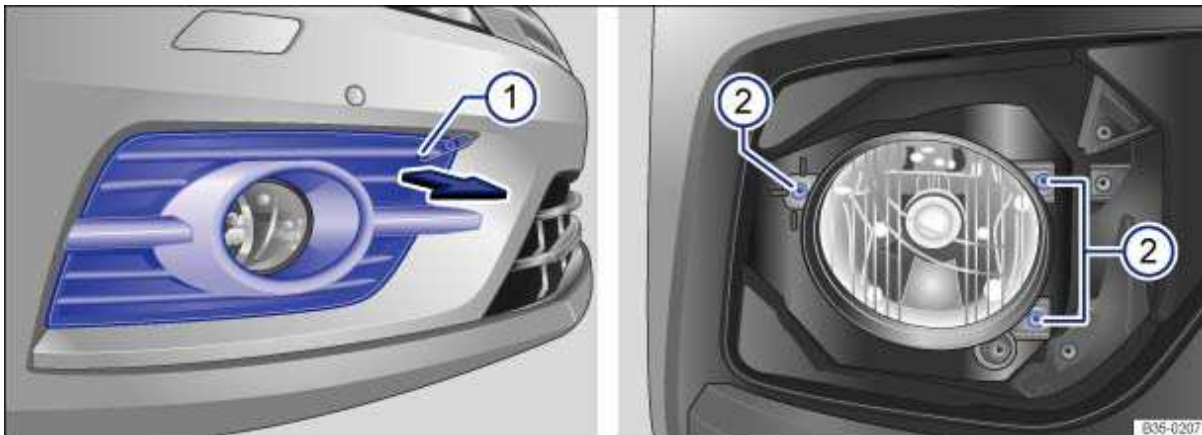
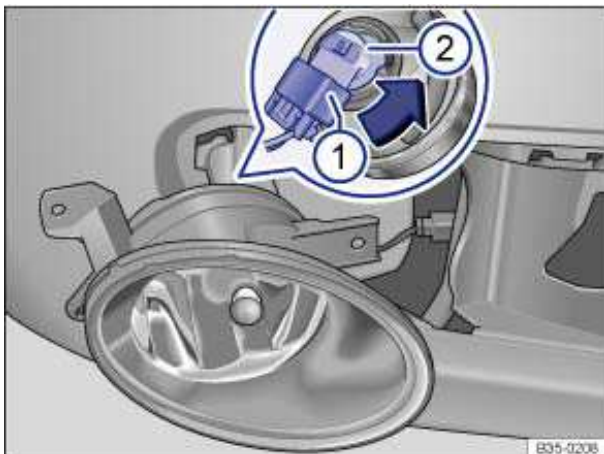

Fig. 190 In the right front bumper: Fog light.
Fig. 191 In the removed light: Replacing the bulb.
3. Insert the wire bracket into the opening ⇒ fig. 190 (1) on the cover and pull it forward in the direction of the arrow with the cover and remove.
4. Remove the screws (2) with the screwdriver.
7. Release the connector ⇒ fig. 191 (1) and disconnect it.
8. Turn the bulb holder (2) counterclockwise until it stops and then it remove it toward the rear with the bulb.
| 14. | Install the screws ⇒ fig. 190 (2). |